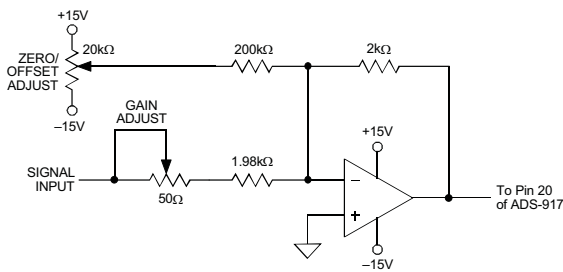

Figure 2. ADS-917 Calibration Circuit
Bypass all power supplies and the REFERENCE OUTPUT (pin 21) to ground with 4.7µF tantalum capacitors. Locate the bypass capacitors as close to the unit as possible. If the user-installed offset and gain adjusting circuit shown in Figure 2 is used, also locate it as close to the ADS-917 as possible.
can be reduced to zero using the input circuit of Figure 2. When using this circuit, or any similar offset and gain-calibration hardware, make adjustments following warmup. To avoid interaction, always adjust offset before gain.
**CALIBRATION PROCEDURE (Refer to Figures 2 and 3)**
Any offset and/or gain calibration procedures should not be implemented until devices are fully warmed up. To avoid interaction, offset must be adjusted before gain. The ranges of adjustment for the circuit of Figure 2 are guaranteed to compensate for the ADS-917's initial accuracy errors and may not be able to compensate for additional system errors.
All fixed resistors in Figure 2 should be metal-film types, and multiturn potentiometers should have TCR's of 100ppm/°C or less to minimize drift with temperature.